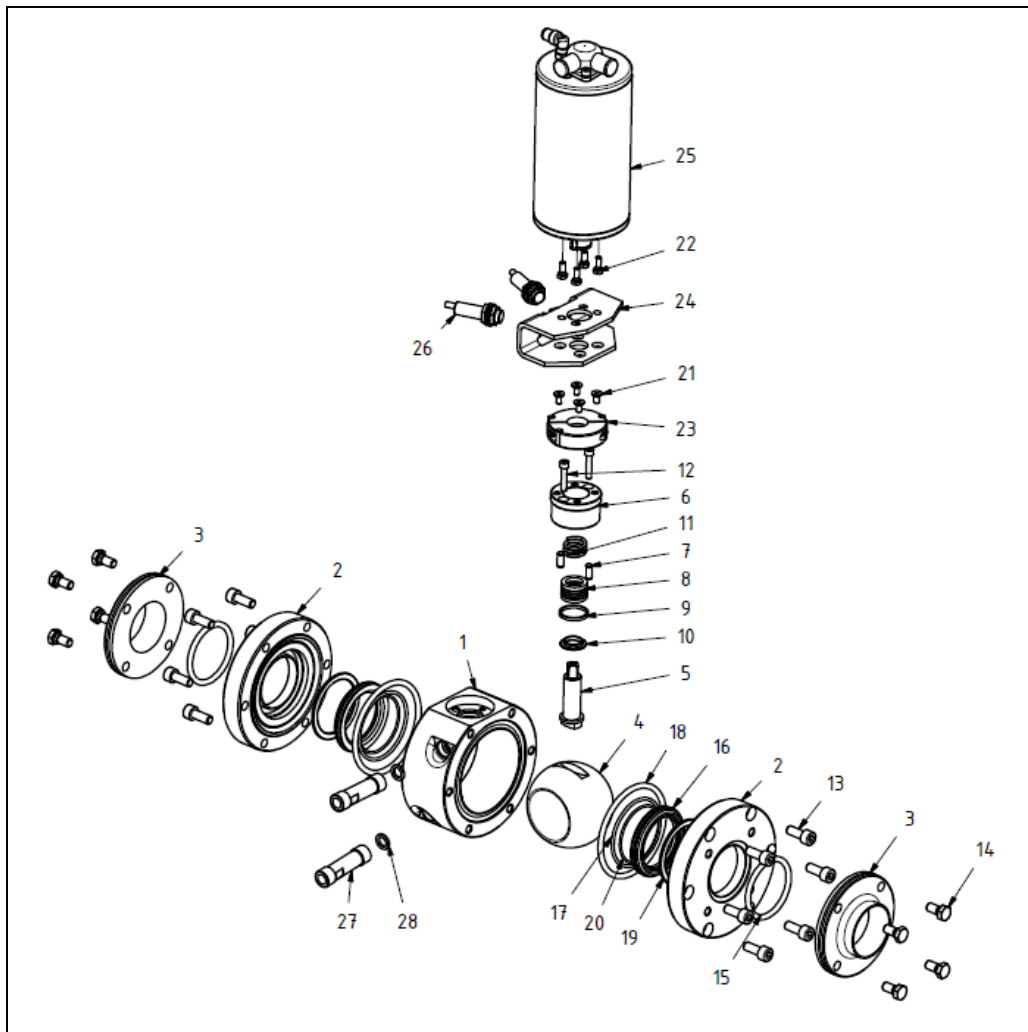

Fig. 6-7: Design of ball valve with pneum. actuator
- Undo the screwed connections directly on the ball valve (for the thread/thread, thread/liner with nut version) or the hexagonal bolts (Fig. 6-7, item 14) for the intermediate flange and DIN 11864-2 versions. With the weld/weld version, unfasten if possible the nearest flange connections to the ball valve within the line.
Alternatively, undo the hexagonal screws (Fig. 6-7, item 14).
- Unscrew the bolt group (item 21).
- Depending on the version, undo the nuts of the screw connections or the screws (Fig. 6-7, item 14) for the intermediate flange version, for weld-on ends (Fig. 6-7, item 13).
- Undo the screws (Fig. 6-7, item 14) on the intermediate flange version and remove the inner flanges.
- Turn the ball (Fig. 6-7, item 4) to closed position.
- Remove the PTFE seal rings (Fig. 6-7, item 16), the O-rings (Fig. 6-7, items 17 and 18) and the rectangular ring (Fig. 6-7, item 19).
- Pull the spindle (Fig. 6-7, item 5) downwards and out of the housing.
- Remove the plain bearing (Fig. 6-7, item 10).
- Remove the V seal ring set (Fig. 6-7, item 8) and the seal ring (Fig. 6-7, item 9).
- Screw the bracket (item 24) tightly to the spindle dome using the countersunk screws (item 21). The bracket must be pressed towards the valve to ensure pre-tensioning of the spring.
- Place the position indicator (item 30) on the spindle square (Fig. 6-7, item 5). When doing this, the position indicator must point in the same direction as the hole in the ball (Fig. 6-7, item 4).
With “air-opening” and “spring closing” pneumatic actuators (Fig. 6-7, item 25), the ball always rotates to the “closed” position if the compressed air fails.
- Slightly loosen the screws(Fig. 6-7, item 22) and turn the actuator so that the ball hole lines up in the “open” position.